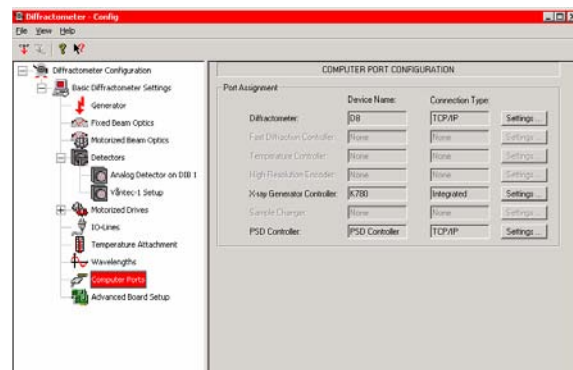

Figure 6.9 - Settings for computer ports
1. The FDC type has to be set to “internal”. In fact, the settings of the “Fast Diffraction Controller” at the subfolder “Computer Ports” will be inaccessible (see Figure 6.9).
1. In Config, go to Computer Ports (see Figure 6.9).